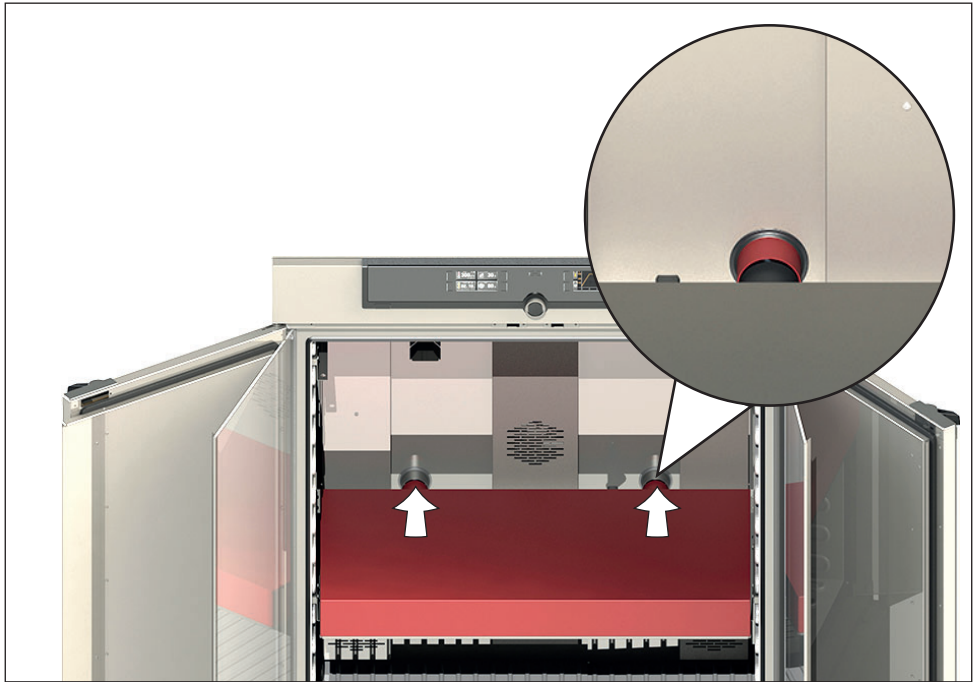

Fig. 36 Put the illumination box back in
9. Push the illumination box back into the appliance. Guide the two connectors of the illumination cooling into the feed-throughs at the rear of the appliance until they click in place (Fig. 36).